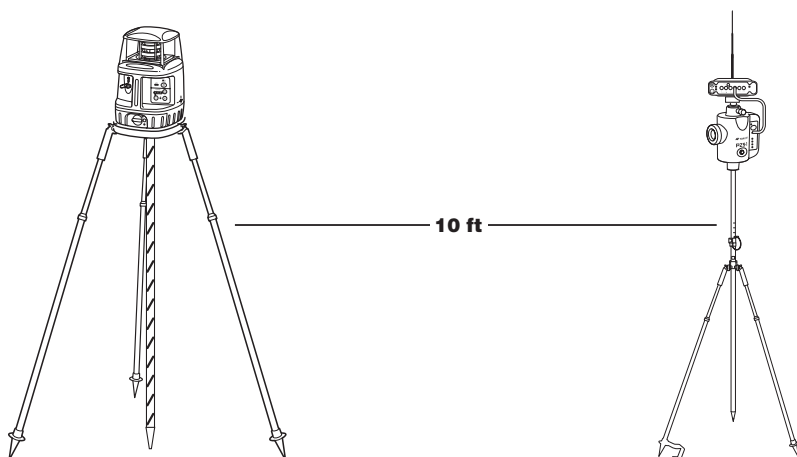

Figure 7-15. Setup Transmitter and Sensor
3. Walk several feet away from the transmitter and face the sensor towards the transmitter (Figure 7-15).